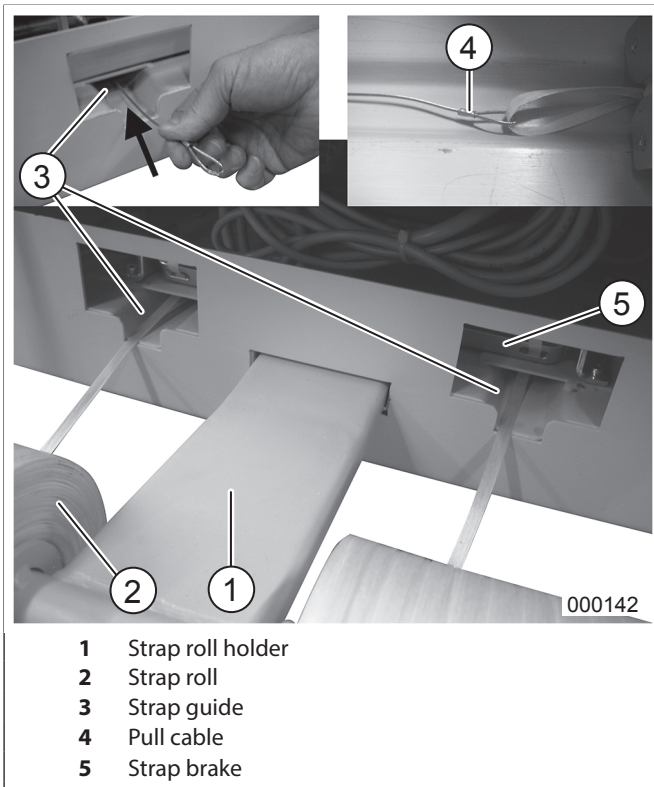

fig. 22 Replacing the strap rolls
4. Insert the strap rolls (fig. 22/2) in to the strap roll holder (fig. 22/1) as shown, with the strap ends pointing down.
5. Secure the strap end to the loop on the included pull cable and feed the other end of the pull cable (fig. 22/4) through the opening at the strap brake (fig. 22/5) and into the strap guide (fig. 22/3). The strap can now be pulled through the strap guide with the pull cable, until it is visible within the baling chamber.
7. Insert both straps as described under „Inserting straps for a new bale“, p. 25 and close the strap brake (fig. 22/5).